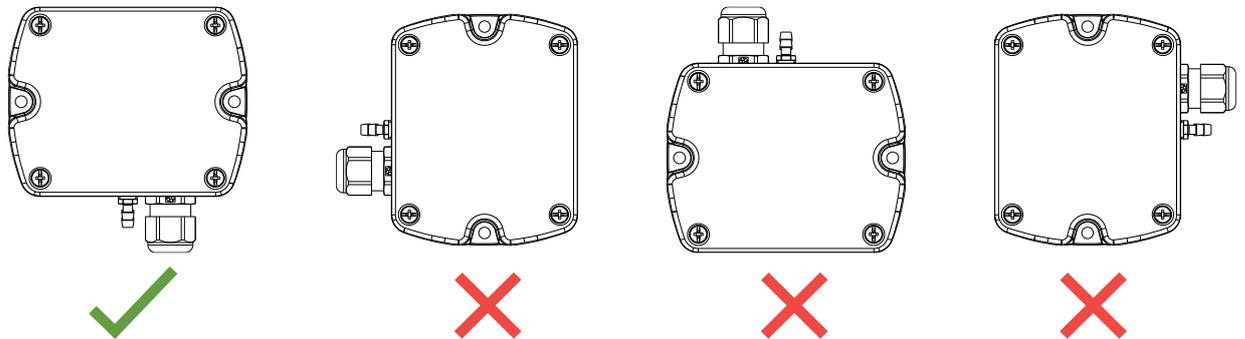

Fig. 4 Mounting orientation
1. Mount the sensor on the correct place. Pay attention to the alignment (refer to Fig. 4).